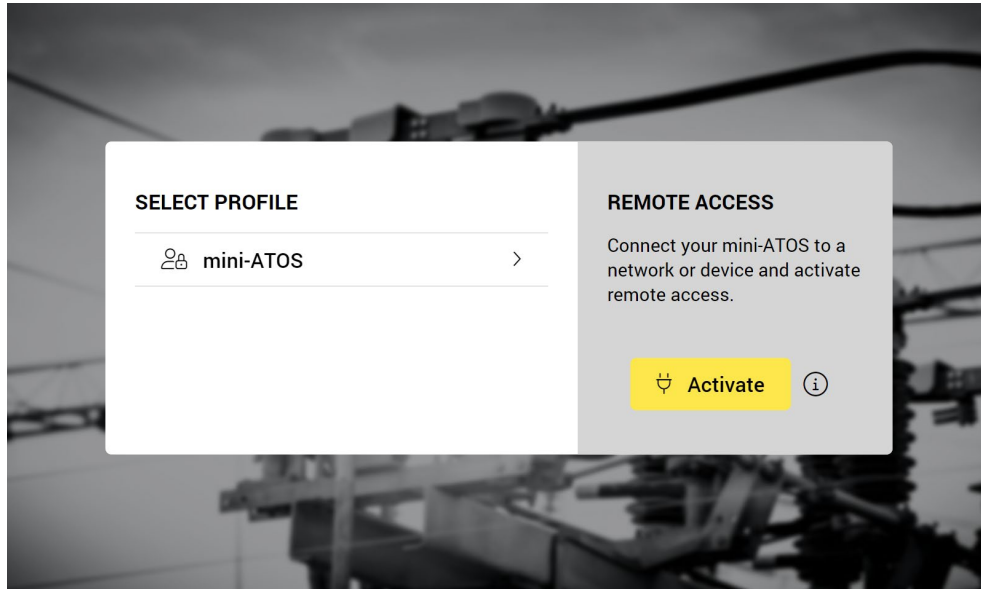

Figure 108: Select Profile page on the mini-ATOS display
- 3- From the home page or the main menu, tap the logout icon  to see the select profile page like Figure 108. You can also tap on the information icon  to see the remote access instructions